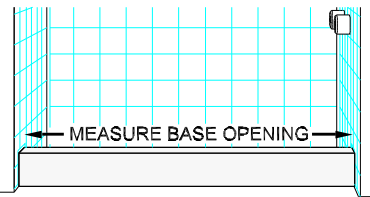

figure 1
1. Measure the base opening along center of shower curb as shown in figure 1, then trim Sill (M) to 1/16" less than measurement obtained.